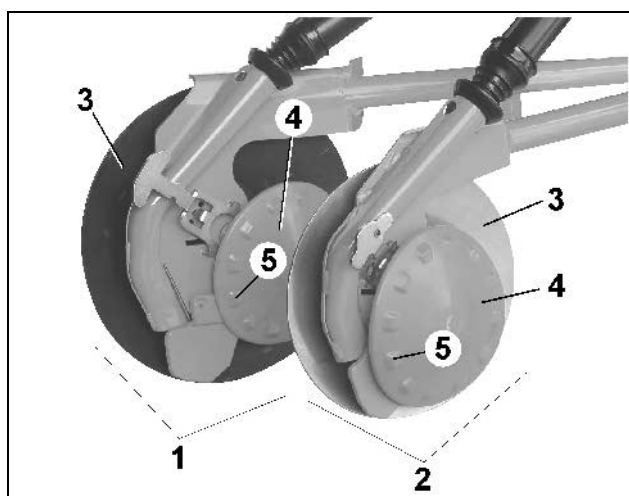

Fig. 14
- RoTeC-coulter (Fig. 14/2)
- RoTeC +-coulter (Fig. 14/1)
The AMAZONE RoTeC-coulter can be safely used for both mulch and conventional drilling. Seed furrow former made from hard cast alloy. The elastic polyurethane (PU) depth limiting cleaning disc keeps the inner disc surface clean (Fig. 14/4). The naps (Fig. 14/5) provide additional drive.
The PU depth limiting disc (Fig. 14/4) precisely controls the depth of the seed furrow via three settings from 2 to 4 cm. (Kap.9.5.3). For work deeper than 4 cm the depth limiting disc can be instantly removed without any tool.